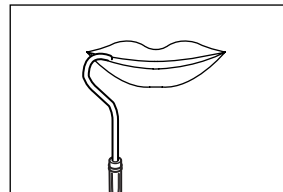
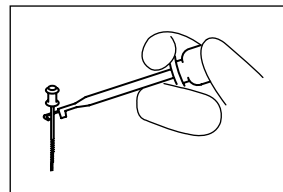

Fig. 12
Fig. 13
- ① Hang the lip hook on the corner of the mouth of the patient. (Fig. 12)
- ② Check that the power is ON.
- ③ Pinch the metallic shaft of the file inside the root canal with a file clip. (Fig. 13)
- ④ Carry out root canal end-measuring.